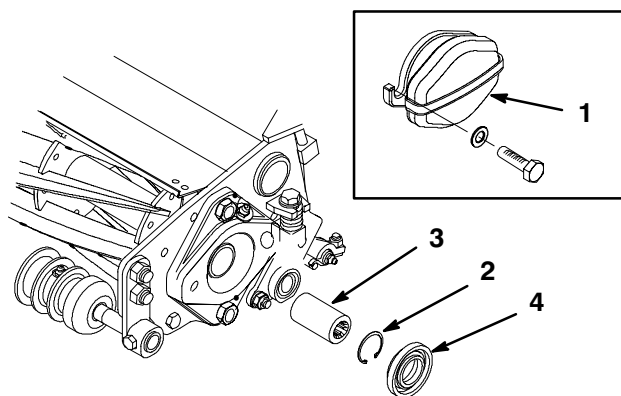

Figure 10
- A. Remove the 2 capscrews and washers securing the counter weight to the left end of the cutting unit. Remove the counter weight (Fig. 10, inset).
- B. Remove the plastic spacer at both ends of the cutting unit (Fig. 10).
- D. Apply grease to the inside diameter of the drive coupler. Install the drive coupler to the left end of the cutting unit with a snap ring (Fig. 10).